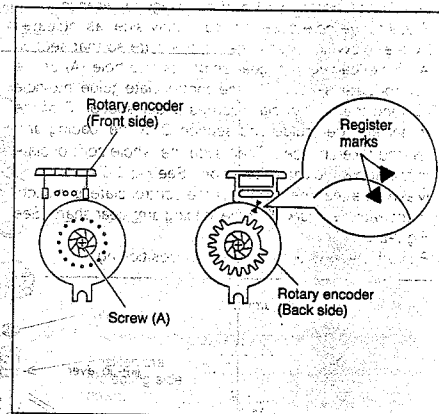

Fig. 2-2-18
- (1) Remove one screw (A) and remove the rotary encoder by pulling it up.
- (2) When installing the rotary encoder, bring the register marks into alignment as indicated in Fig. 2-2-18.